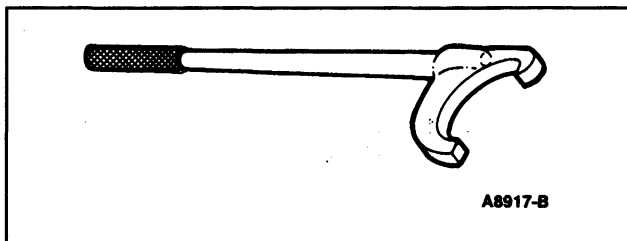

Figure 4: T83T-9000-C Injection Pump Rotating Tool
3. Install Injection Pump Rotating Tool T83T-9000-C (Figure 4) on front of pump and rotate injection pump to align timing mark on injection pump mounting flange with timing mark on pump mounting adapter, to within $\pm 0.75\text{mm}$ (0.030 inches).
10. Install Injection Pump Rotating Tool, T83T-9000-C (Figure 4), on front of pump. Rotate clockwise (when viewed from front of engine) to retard, and counterclockwise to advance timing, by lightly tapping tool with a rubber mallet. Two degrees of dynamic timing is approximately 0.75mm (0.030 inch) of timing mark movement.